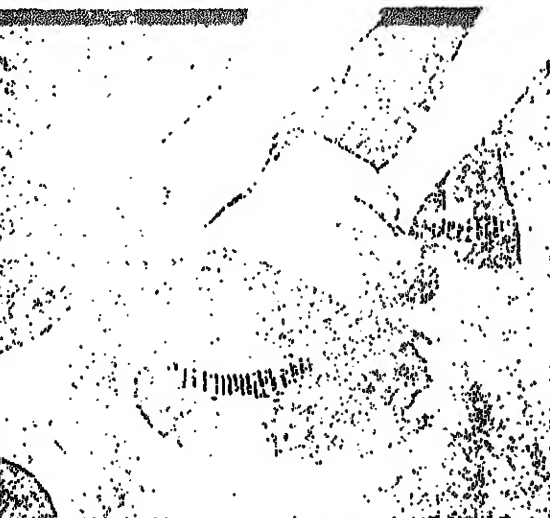

FIGURE 7-76.
b. Lift off bearing carrier, upper bearing, and seal from motor housing. Tag the bearing cone with its respective cup (see figure 7-76).